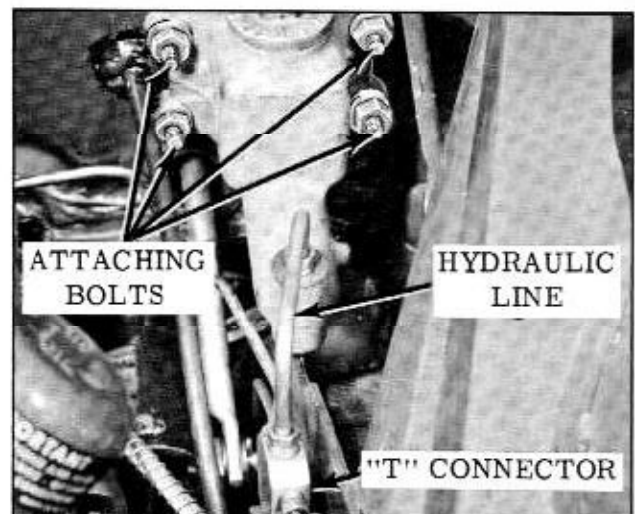

Figure 7-9 Master Cylinder Attachment
2. Remove master cylinder by removing the four attaching nuts. (Fig. 7-9) The brake master cylinder can be removed without disconnecting the push rod and clevis.